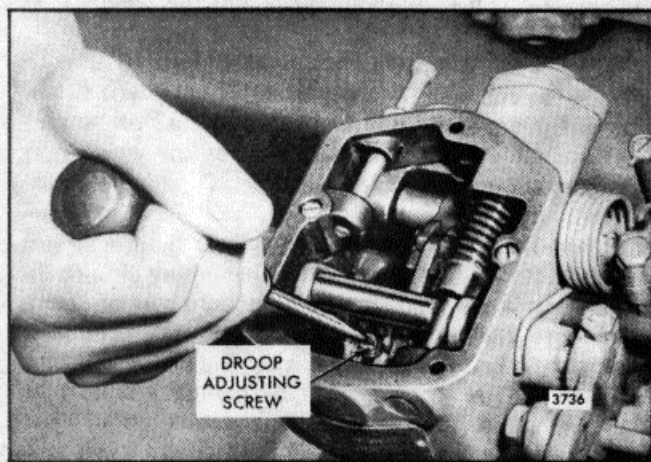

Fig. 7. - Adjusting Speed Droop
4. Loosen the screw and move the droop bracket so that the screw is midway between the ends of the slot in the bracket. Tighten the screw (Fig. 7).